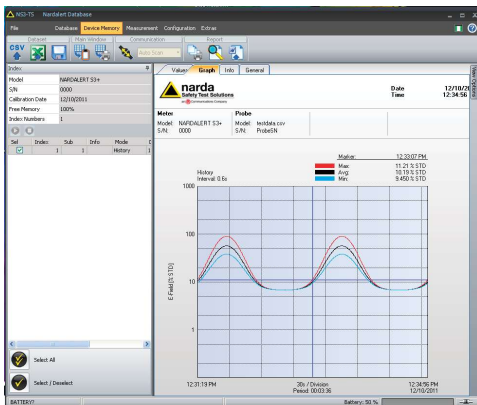

Figure 3
3. **Device Memory** – Data management of readings stored on Nardalert (Figure 3)